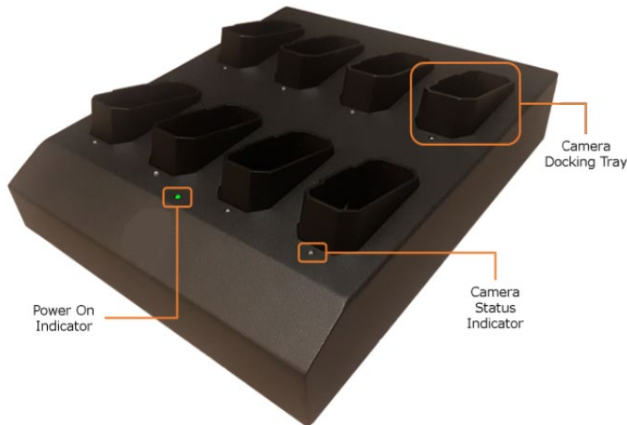

Figure 1
**Note:** The power on indicator (Figure 1) should now be green.